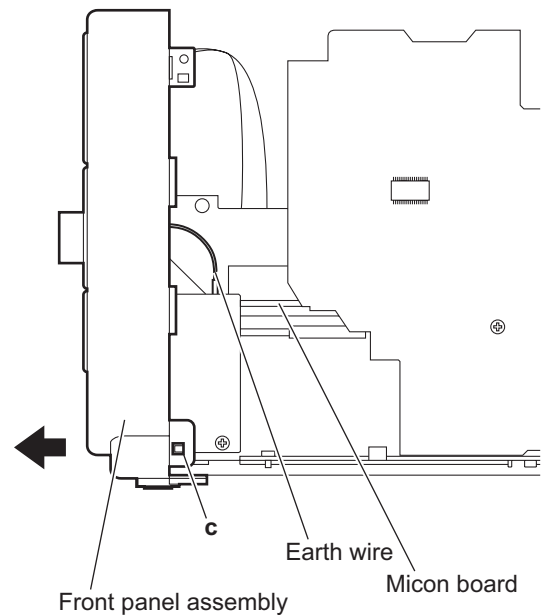

Fig.7
- From the right side of the main body, disconnect the earth wire from the micon board. (See Fig.7.)